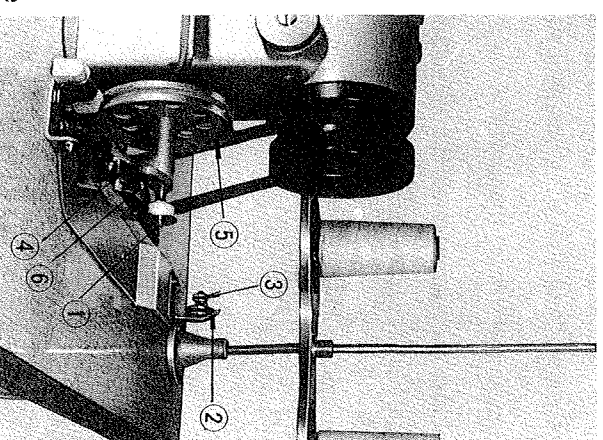

Fig. 4
- 1) Push the bobbin on the bobbin winder spindle (1) as far as it will go. (Fig. 4)
- 2) Pass the thread from the thread stand downward through the eye of the tension bracket (2), then between and around the back of the tension discs (3).
- 4) Push the bobbin winder lever (4) downward until the wheel (5) contacts the drive belt.
- 7) Adjustment screw (6) can be turned in or out to increase or decrease the amount of the thread wound on the bobbin.